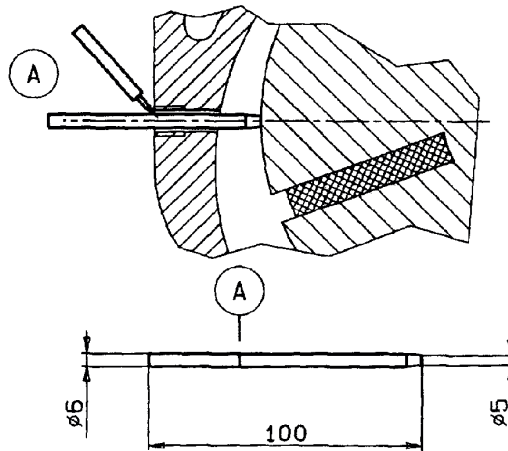

Fig. J.2 - Control - part 1
- Insert a rod (diameter **6 mm** length **100 mm**) into the hole, **Fig. J.2.**
- Turn the rotor shaft by hand until the rod touches the outer diameter of the rotor, **Fig. J.2.**
- Mark the rod at the height of the threaded hole with a marking, **Fig. J.2.**